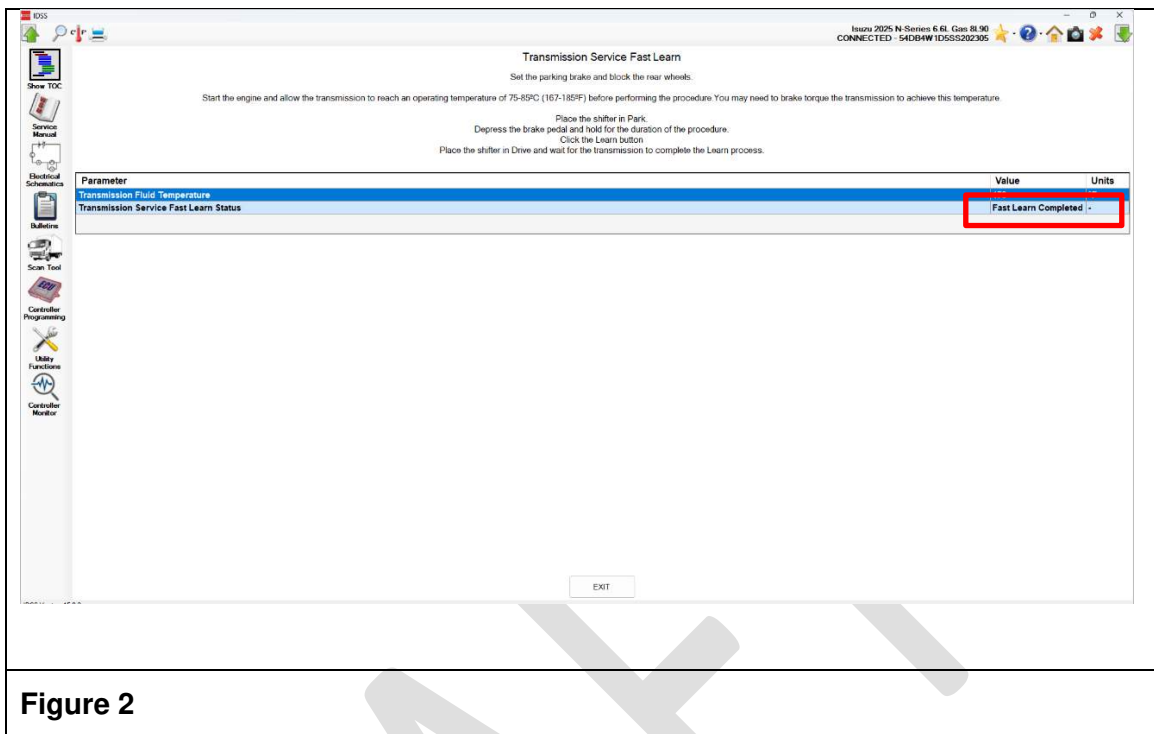

Figure 2
12. The fast learn process is completed when the Transmission Service Fast Learn Status reads “Fast Learn Completed”. (See Figure 2.)